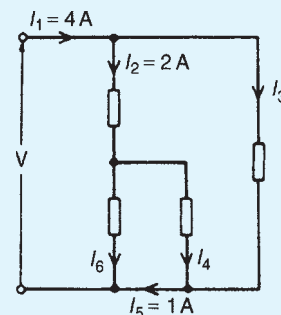

Figure 13.11
- Find currents I_3 , I_4 and I_6 in Fig. 13.11